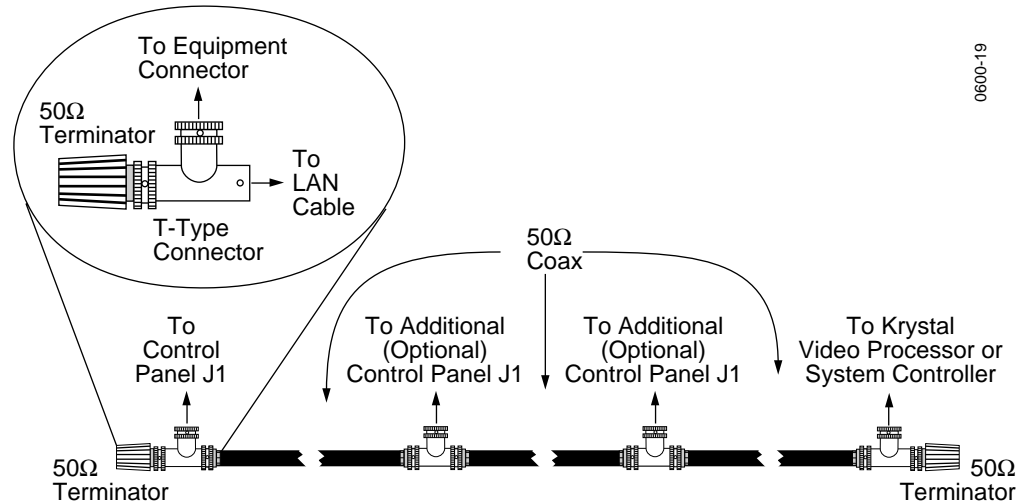

Figure 2-5. LAN Cabling Connections
1. Connect from one to eight Control Panels using 50 Ω coaxial cable, BNC T-connectors, and a 50 Ω terminator (Figure 2-5).